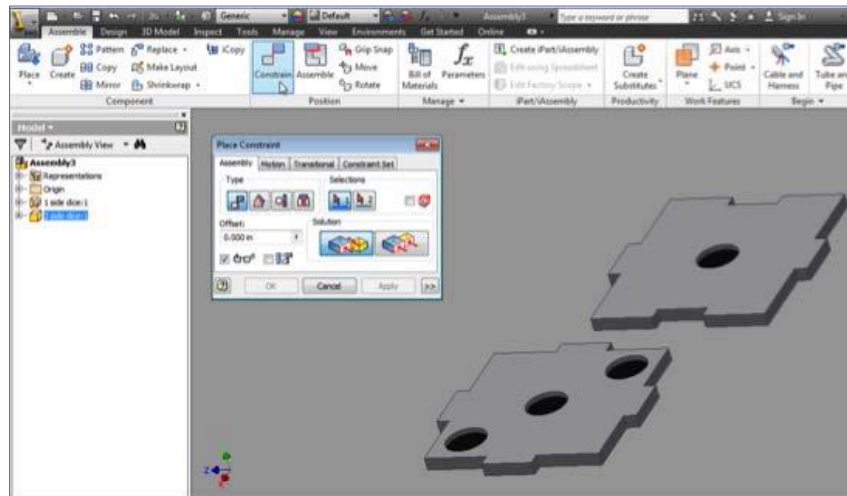

Figure 19
- Place the second part. On the Ribbon, select “Constrain.” The “Place Constraints” dialog box comes up, as shown in Figure 19.